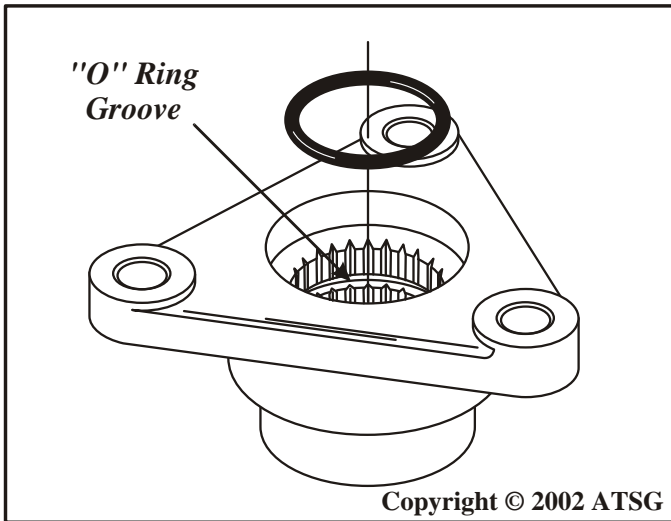

Figure 210
16. Install a new "O" ring into the inside groove of the transmission yoke assembly, as shown in Figure 210, and lubricate with a small amount of Trans-Jel®.